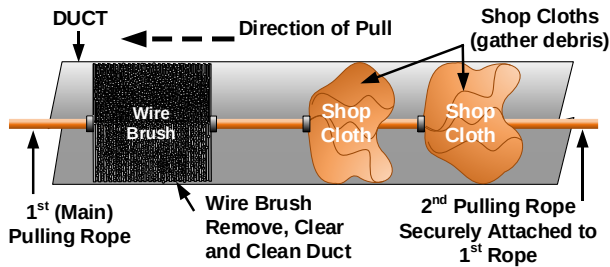

Figure 17
15.2.1 Attach a wire brush, rags and a second pulling rope to one end of previously installed pulling rope. Ensure cleaning apparatus and second pulling rope are securely attached to first pulling rope and won't come loose. **See Fig. 17.**